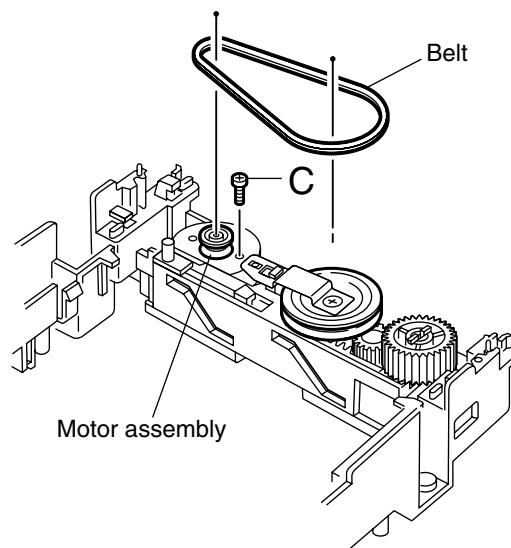

Fig.8
■ Removing the motor assembly (See Fig.8 and 9)